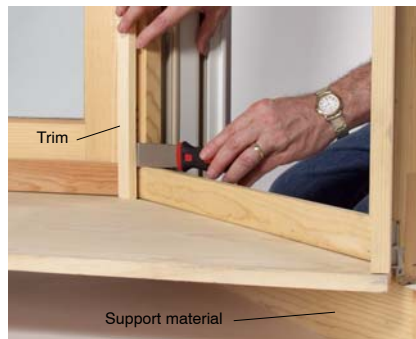

Figure 1
2. Remove the interior horizontal mull trim, followed by the vertical mull trim, on each mull that will receive a cable support. See figure 1.